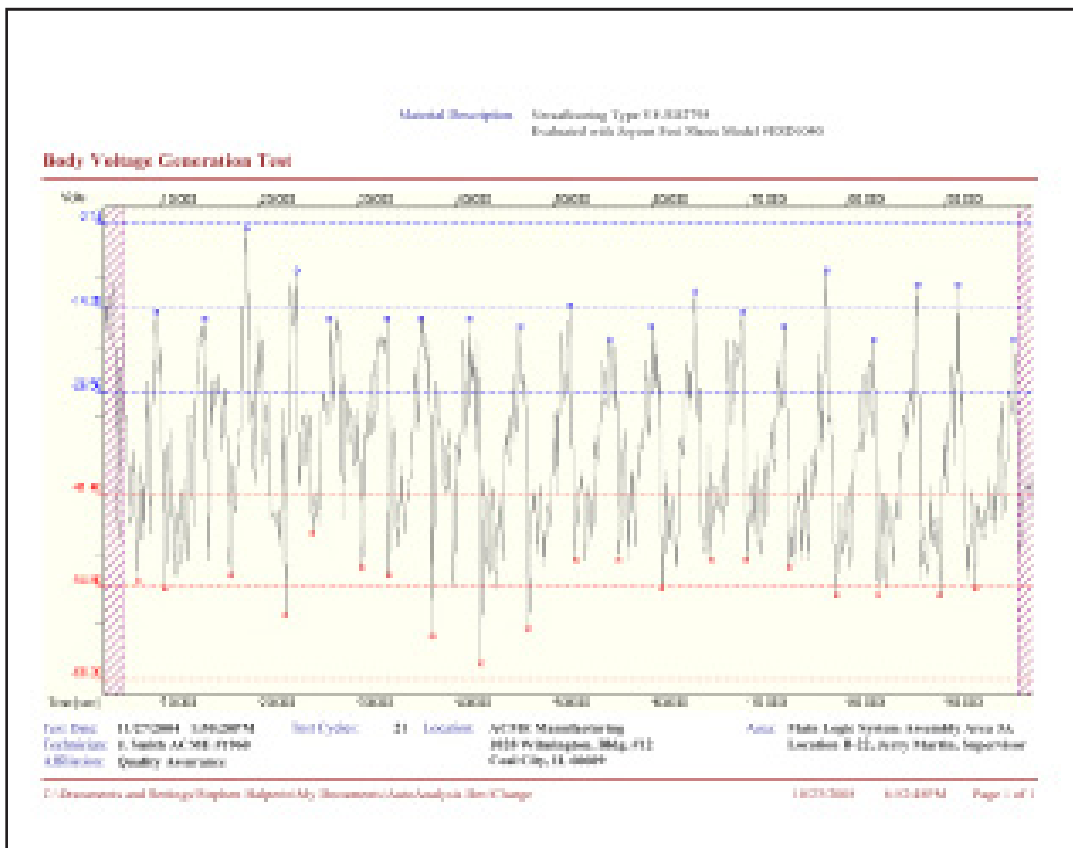

Figure 41: Selecting “Body Voltage Test” or “Voltage Test” from the Report Menu Generates a full size landscape Chart of Test Data
1. To view a printable 8.5x11.0 inch chart of body voltage generation (Figure 41), select **Body Voltage Generation**. A full chart will be displayed.